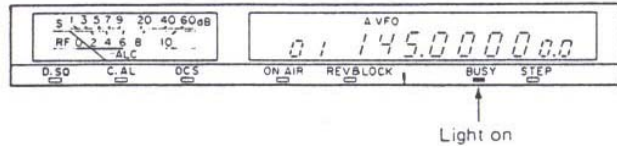

Fig. 18 Meter and display section (TS-711A/E)
- 6) Meter and display section should be set as follows **Fig. 18** or **19**.